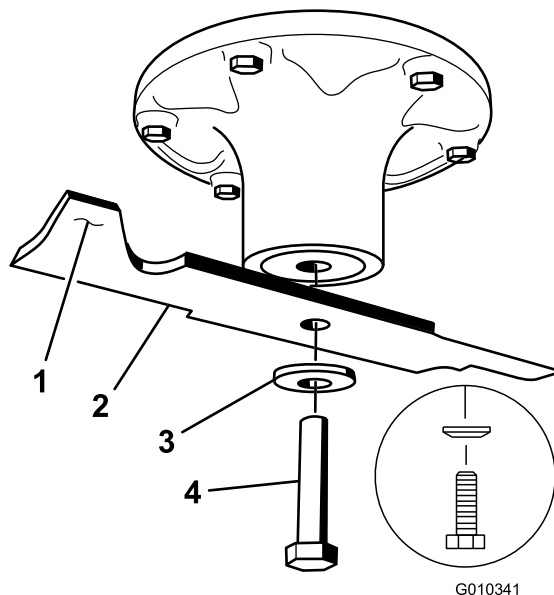

Figure 69
2. Remove the blade bolt, curved washer, and blade from the spindle shaft (Figure 69).
1. Install the blade onto the spindle shaft (Figure 69).
2. Install the curved washer (cupped side toward the blade) and the blade bolt (Figure 69).